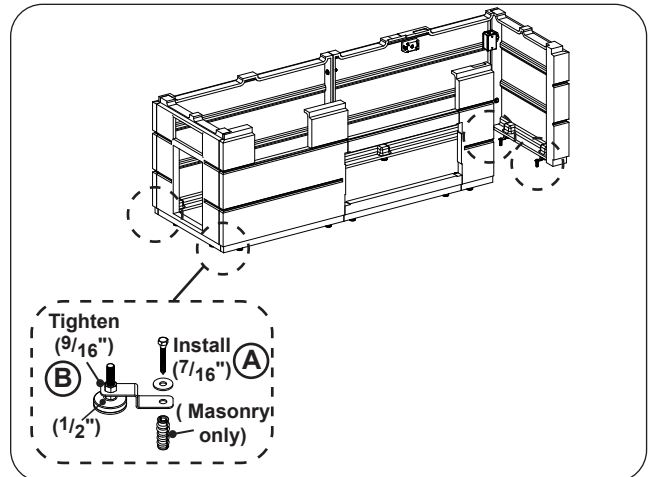

Fig. 10-3 Mount island
1. Secure the island to the floor using the 4 pre-installed mounting brackets. Use a $\frac{7}{16}$ " open end wrench and the supplied mounting hardware as appropriate. See Fig. 10-3, A.
Finish by tightening down the brackets. Hold a leveler in place (below bracket) with a $\frac{1}{2}$ " open end wrench, and tighten the nut (above bracket) using a $\frac{9}{16}$ " open end wrench. See Fig. 10-3, B.